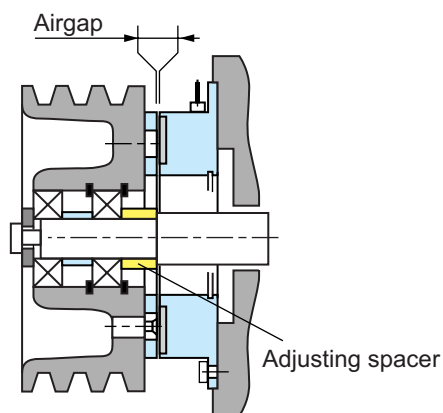
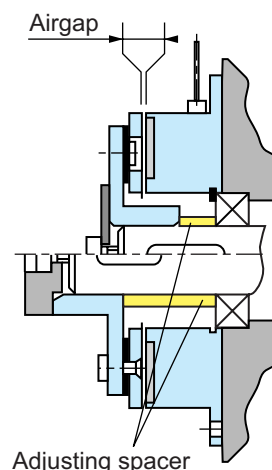

Fig. 1
Fig. 2
The inductor (104) should be rigidly fixed to the frame of the machine, centred by the collar (see figure 1) or directly centred on a bearing forming a support (see figure 2). In this case, a circlip fitted in the groove provided for the purpose holds it central to the bearing. In the case of collar centring, we specify an H9 tolerance.